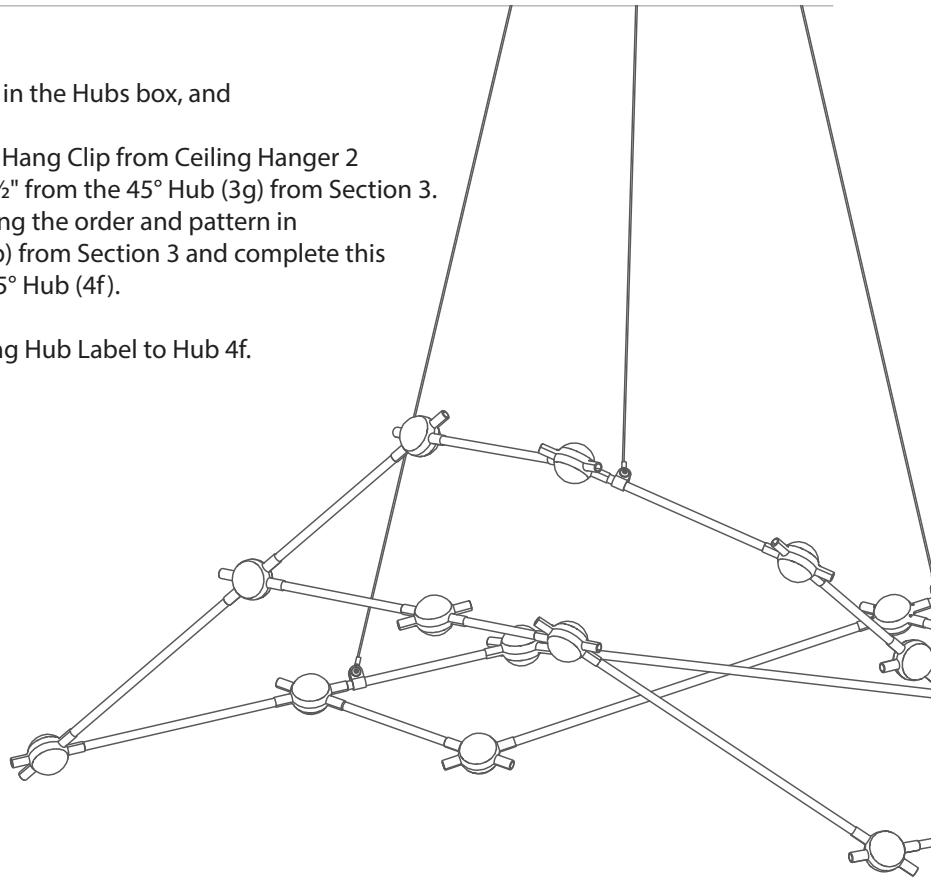

Fig. 8a - Angled Front View
- Continue by connecting Arms and 45° Hubs following the order and pattern in Figs. 8a/8b, attaching the C8 Arm to the 45° Hub (3b) from Section 3 and complete this section by connecting the remaining C5 Arm and 45° Hub (4f).